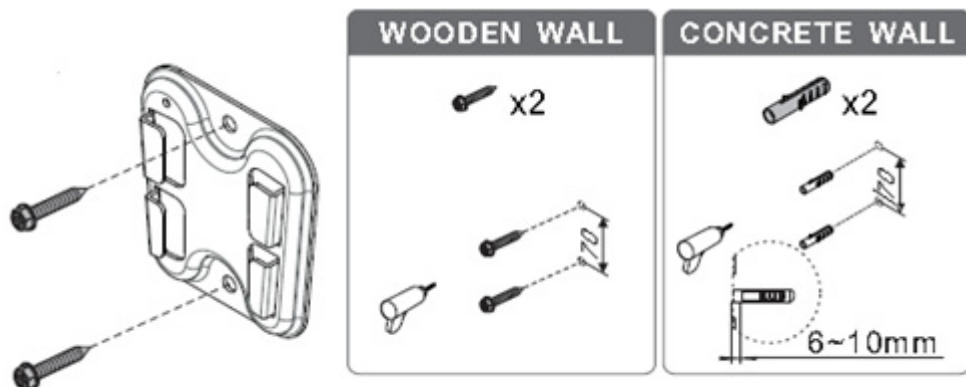

Figure 2.22 Mounting bracket on the wall
- Cut out a section corresponding to the size shown below. The dimensions unit is mm. (See Figure 2.21) (See Figure 2.22) (See Figure 2.23)